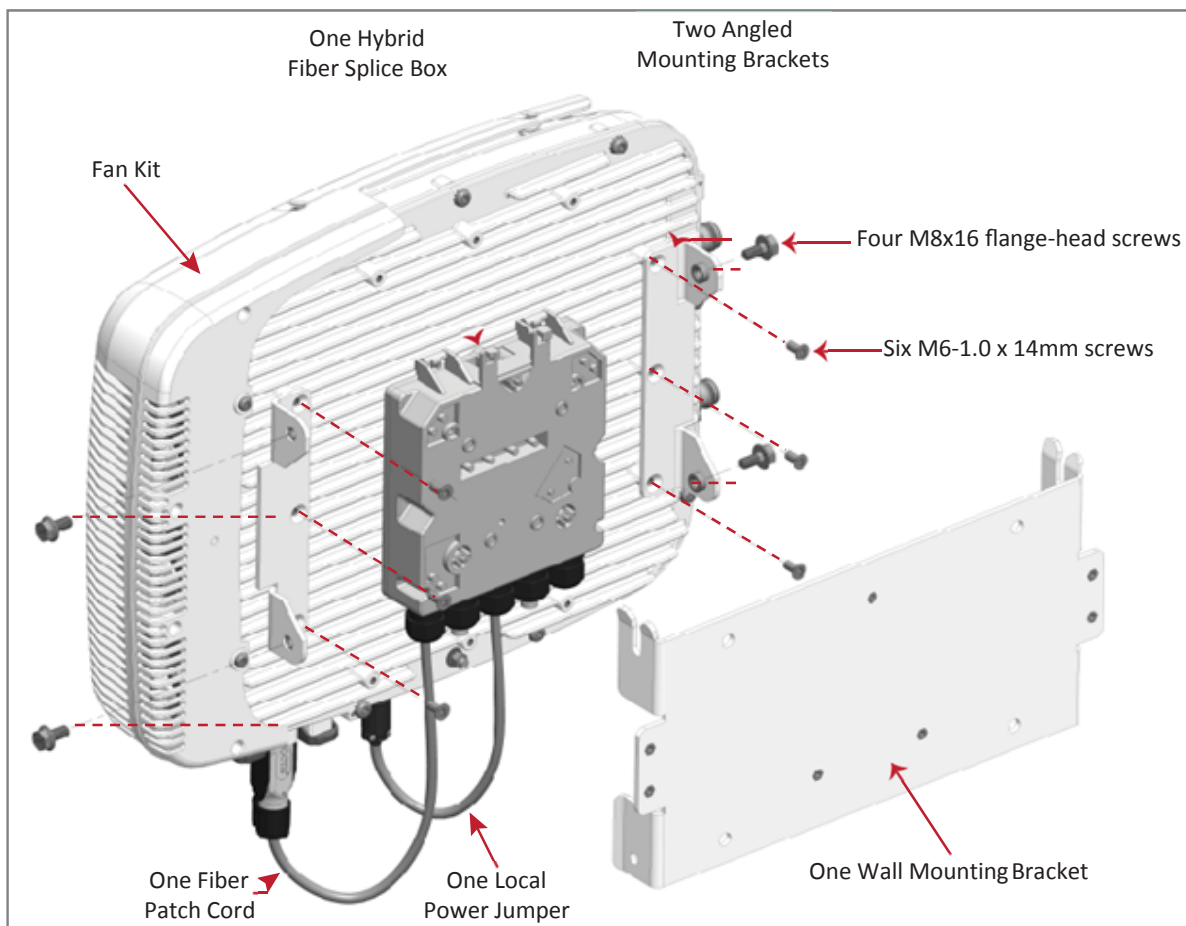

Figure 11. CAP L with Fan Kit, CAP L Mounting Bracket Kit, and CAP L Hybrid Fiber Splice Box Kit
- 5 Assemble and mount the CAP L Hybrid Fiber Splice Box Kit and the CAP L, as described below and as shown in Figure 11, which shows a CAP L with Fan Kit (installation for a CAP L without a Fan Kit is the same).